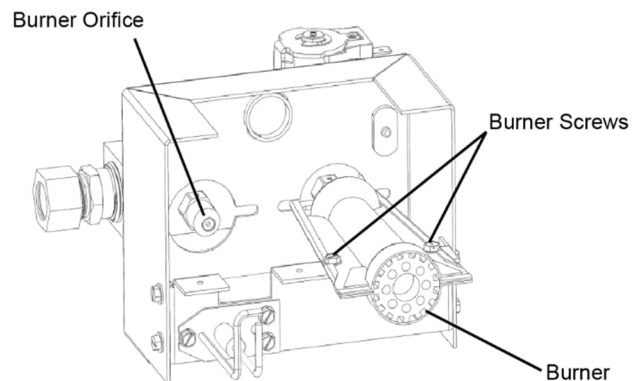
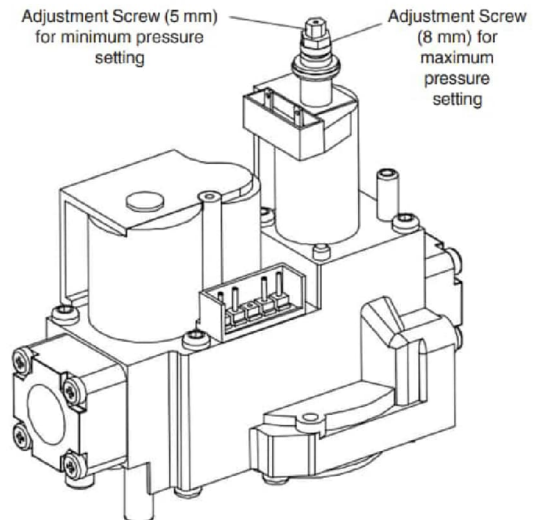

Figure 12. Gas Burner Assembly
Figure 13. Gas Valve
Inlet, regulated, and pilot gas pressure readings can be taken using a digital tube manometer at the tap location shown in Figure 12. Figure 12 shows the burner assembly and Figure 13 shows the gas valve.
D. X26 Propane Conversion (See Fig. 12 and 13)